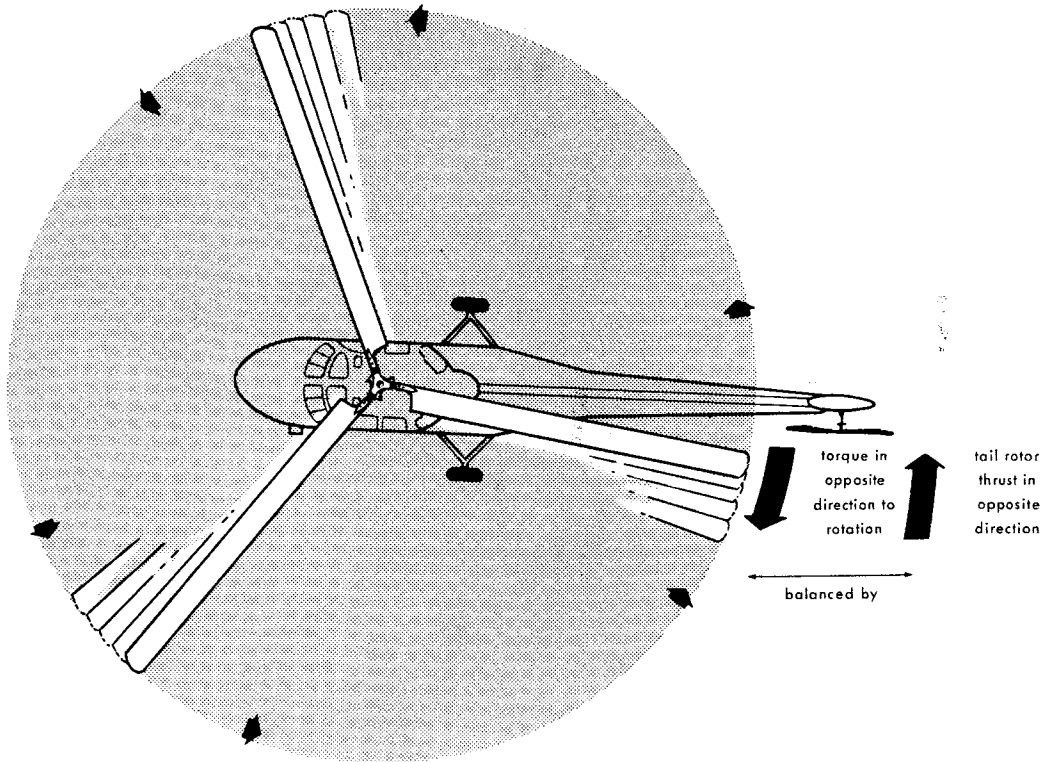

Fig 4 Rotor torque
6. Helicopters with a single main rotor set up a directional control problem. This is because the engine power used in turning the main rotor shaft creates a force—torque reaction—that tends to rotate the aircraft in the opposite direction. This force is countered by driving a tail rotor (Fig 4).